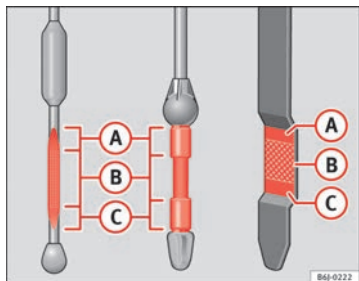

Fig. 166 Engine oil dipstick
- Then pull it out once more and check the oil level ⇒ Fig. 166. Top up with engine oil if necessary.